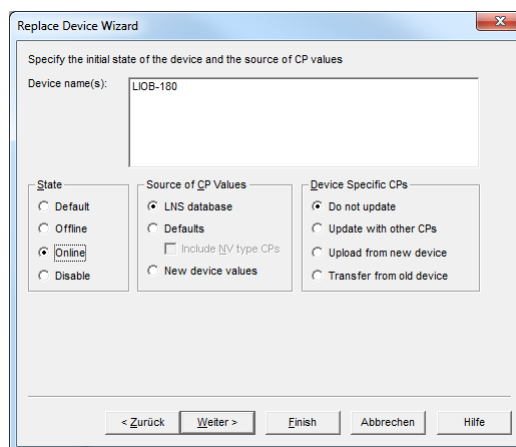

Figure 102: Select online state
5. Then select **Online** as shown in Figure 102 and click **Next**.